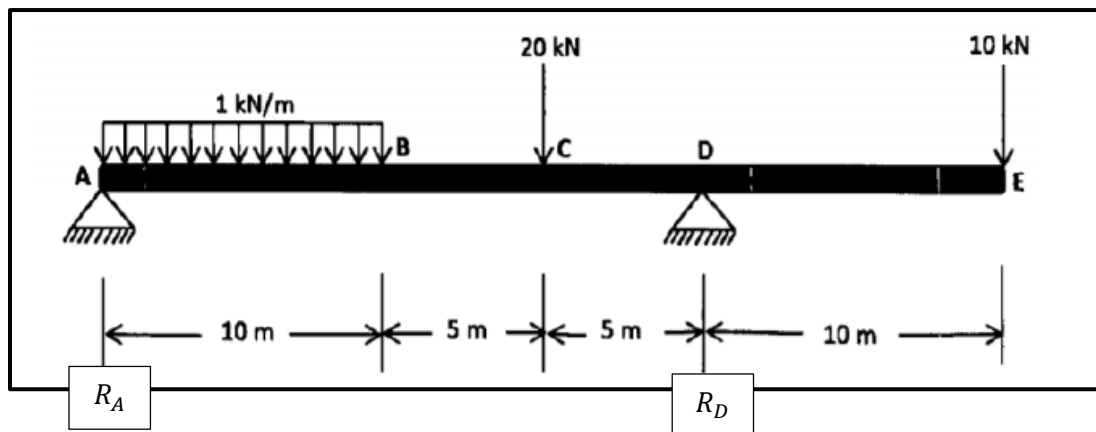

FIGURE 8.2
8.2 The diagram in FIGURE 8.2 below shows a beam with two vertically applied point loads of 10 kN and 20 kN and also a 1 kN/m uniformly distributed load on it.